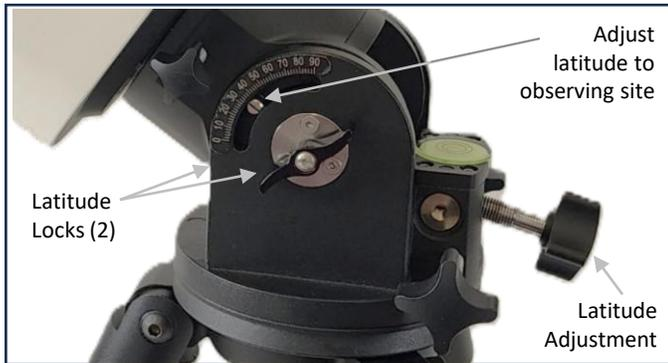

Fig. 2.17
- 1. Set Latitude:** Turn the latitude adjustment screw until the mount's latitude indicator matches the latitude of your observing site. See Fig. 2.17.